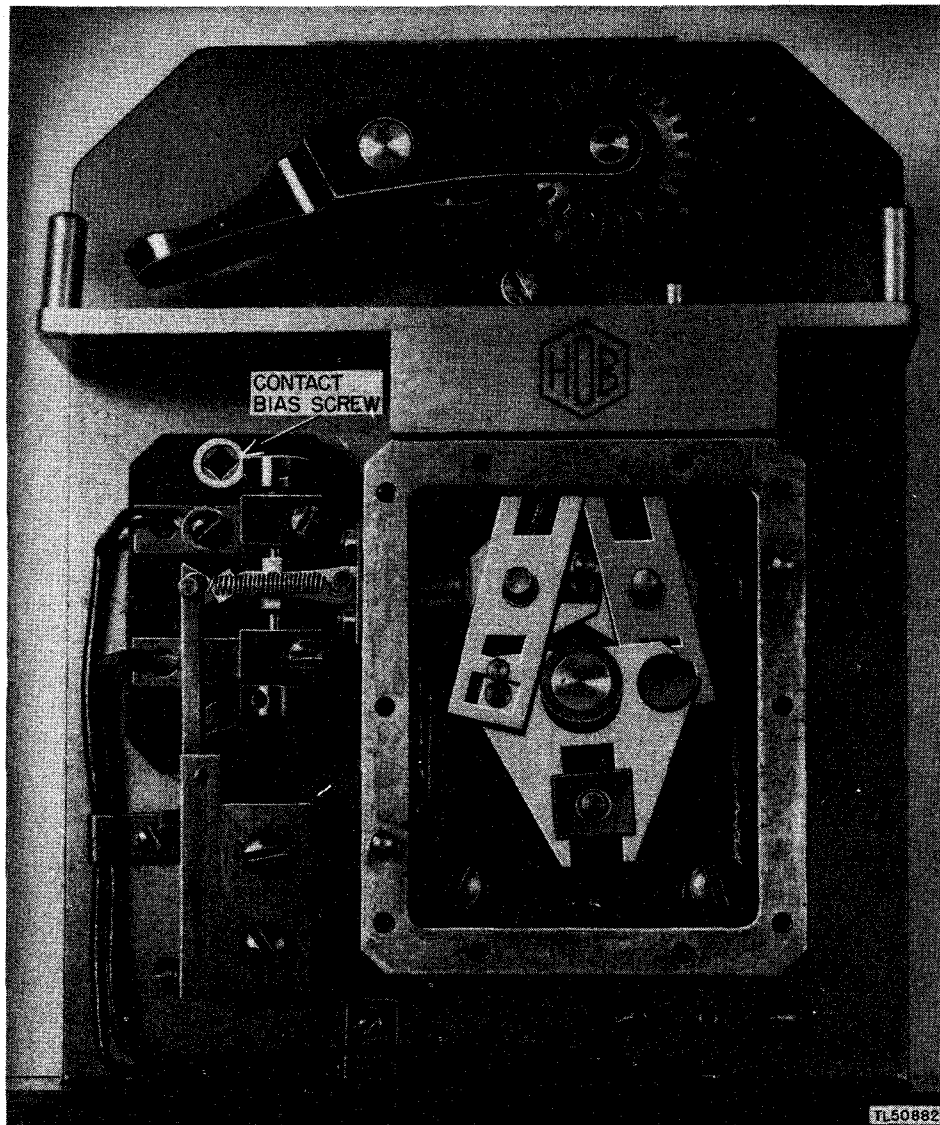
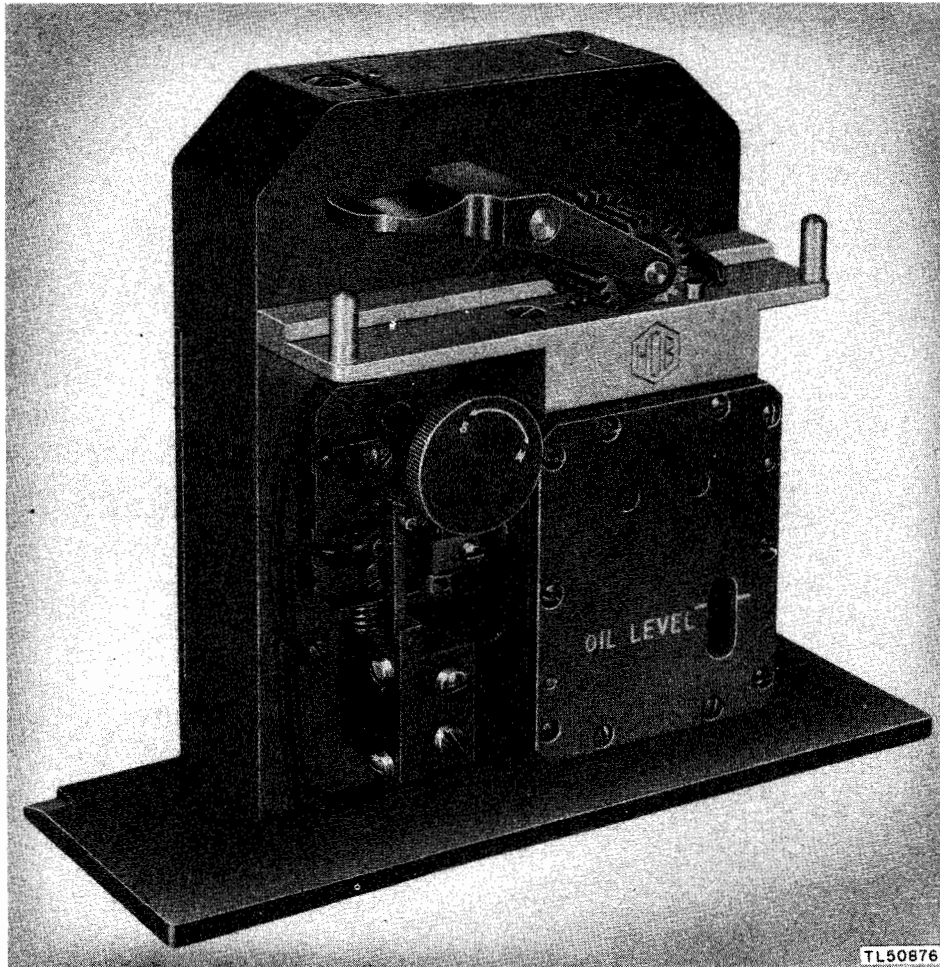

Figure 22. Detailed view of internal parts of keying head.
Figure 23. Bias key in position for changing contact bias of keying head.
**b. Biasing of Contacts.** (1) A biasing adjustment makes it possible to vary the length of time that the alternate marking and spacing contacts are closed, thus permitting operation of the keying head under various signal line conditions. Before shipment, the keying head is adjusted for 50 percent marking and 50 percent spacing bias. To change the bias adjustment, remove the contact plate cover (9, fig. 25), insert the bias key (2E-95) into the square hole in the contact bias screw (fig. 22) and turn it in the desired direction as marked on the head of the biasing key (fig. 23). Turning the bias key clockwise (in the direction of the arrow pointing toward M) increases the length of the marking signal and decreases the length of the spacing signal. Turning
- (1) Insert the bias key (2E-95) in the bias screw (fig. 23) and turn it clockwise (in the direction of the arrow pointing toward M) as far as it will turn.